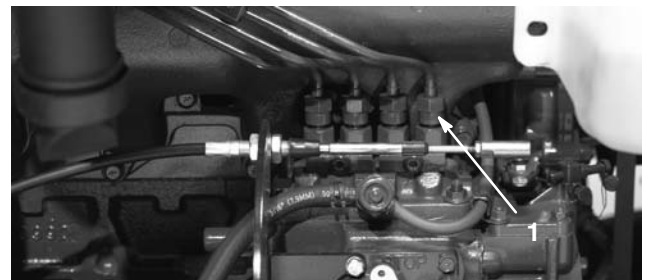

Figure 51
1. Loosen the pipe connection to the No. 1 injector nozzle and holder assembly at the injection pump (Fig. 51).